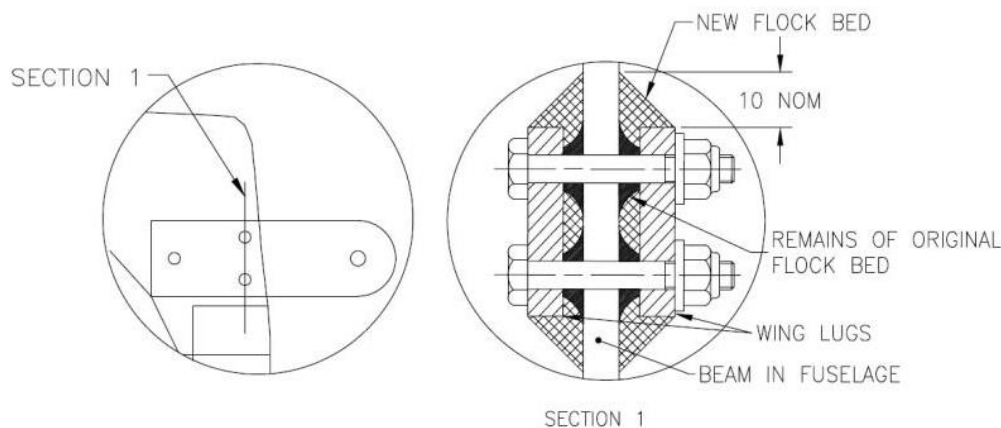

Figure 42 – Bond Details (all J-Series)
- Use a die-grinder remove some of the old flock bed. Do not remove that portion of the bed where the bolts pass through: this will be used to locate the replacement lugs (See a cross-section of the lug assembly shown in Figure 42). Leave a portion of the bed approximately 12mm in diameter around each bolt hole to support the new lugs.
- Apply a resin/flock bead around the edge of the lugs as shown in Figure 42.